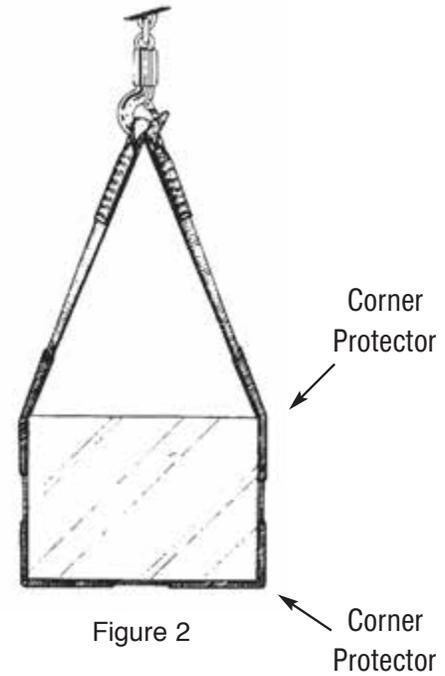

Figure 2
**PREVENT DAMAGE** – Use corner protectors when bending around sharp corners. (see example Figure 2)